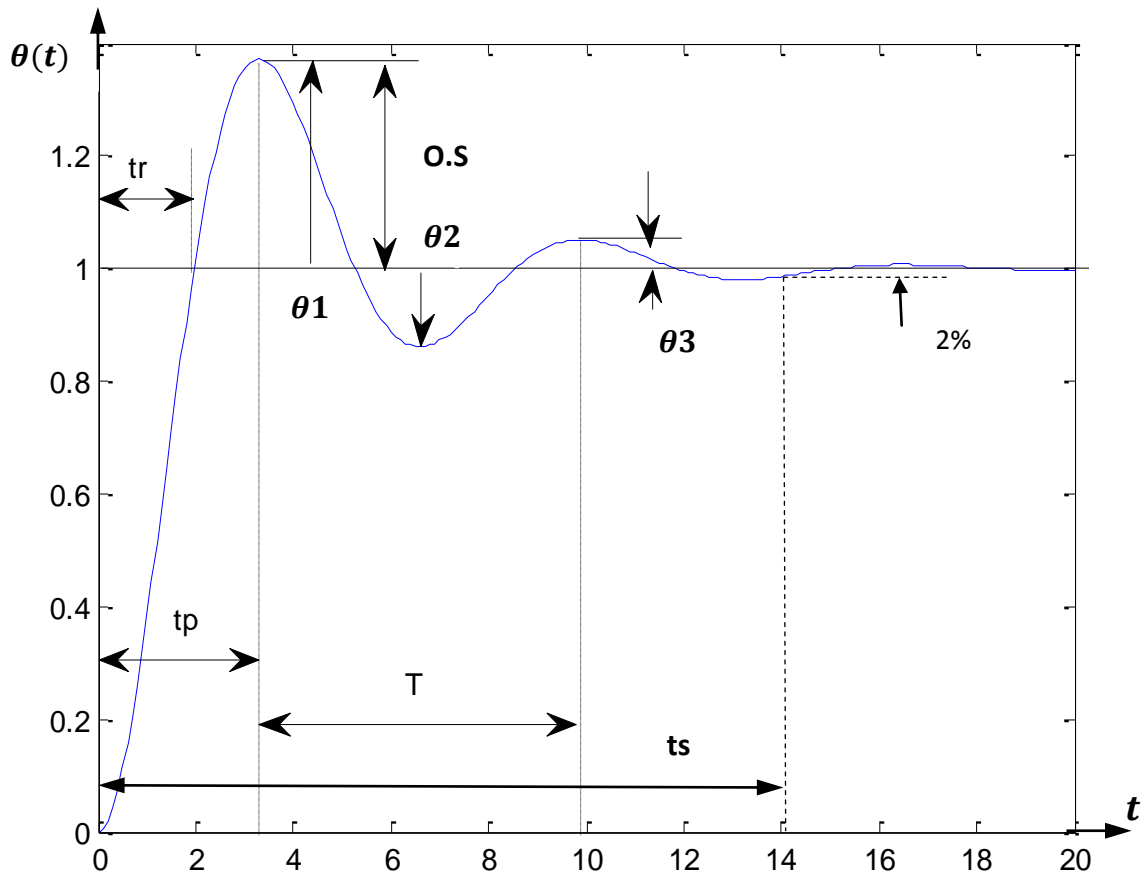

Figure 6-3
Transit time response specification are defined same as experiment 3. Referring to Figure 6-3:
- Set $K_p = 0.6 \sim 0.8$, (reading 6 at AU150B). This setting depends on your step response. Make sure 3 peaks can get from this setting. **Ask lab instructor to check your connection before turn on both power supplies.** Use Run and Stop the oscilloscope to get the wave similar to Figure 6-3.
- From oscilloscope, press "Cursor" button \rightarrow H bar, Choose source CH1, Adjust cursor to measure the CH 1 voltage (i.e. Delta=5.36, this is the input voltage V_i for motor), and choose source CH 2 to measure voltage (i.e. Delta=3.36, output Pot voltage, which can be converted into angular position). Referring to Figure 6-3, find the cursor of $\theta_1, \theta_2, \theta_3$ (if it exists) and switch to V Bar, then T, tr, tp, ts can be obtained. Draw a copy of screen display.